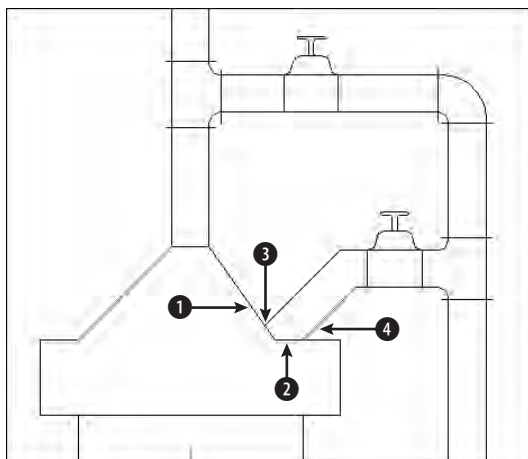

Figure 9-13: The zoomed-in view of the air and vacuum release valve
6. Use ZOOM Dynamic to zoom in to the top of the release valve. Your view should look like Figure 9-13.
7. Type **change** ↵. At the `Select objects:` prompt, pick points ① and ② in Figure 9-13. End object selection. At the `Specify change point or [Properties]:` prompt, pick the endpoint object snap at ③ in Figure 9-13. AutoCAD redraws the lines.
8. Pick the line at ④. Right-click and choose Repeat CHANGE. At the Specify change point or [Properties]: prompt, press Shift+right-click and choose the Intersection object snap to pick the new intersection near ④ in Figure 9-13. AutoCAD trims the line.